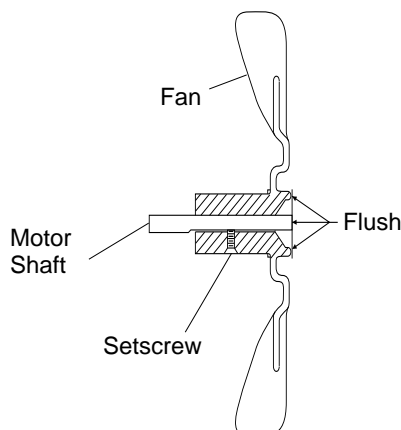

Figure 6 - Fan Cross Section
6. Replace fan on motor shaft. Place fan hub flush with end of motor shaft (see Figure 6).